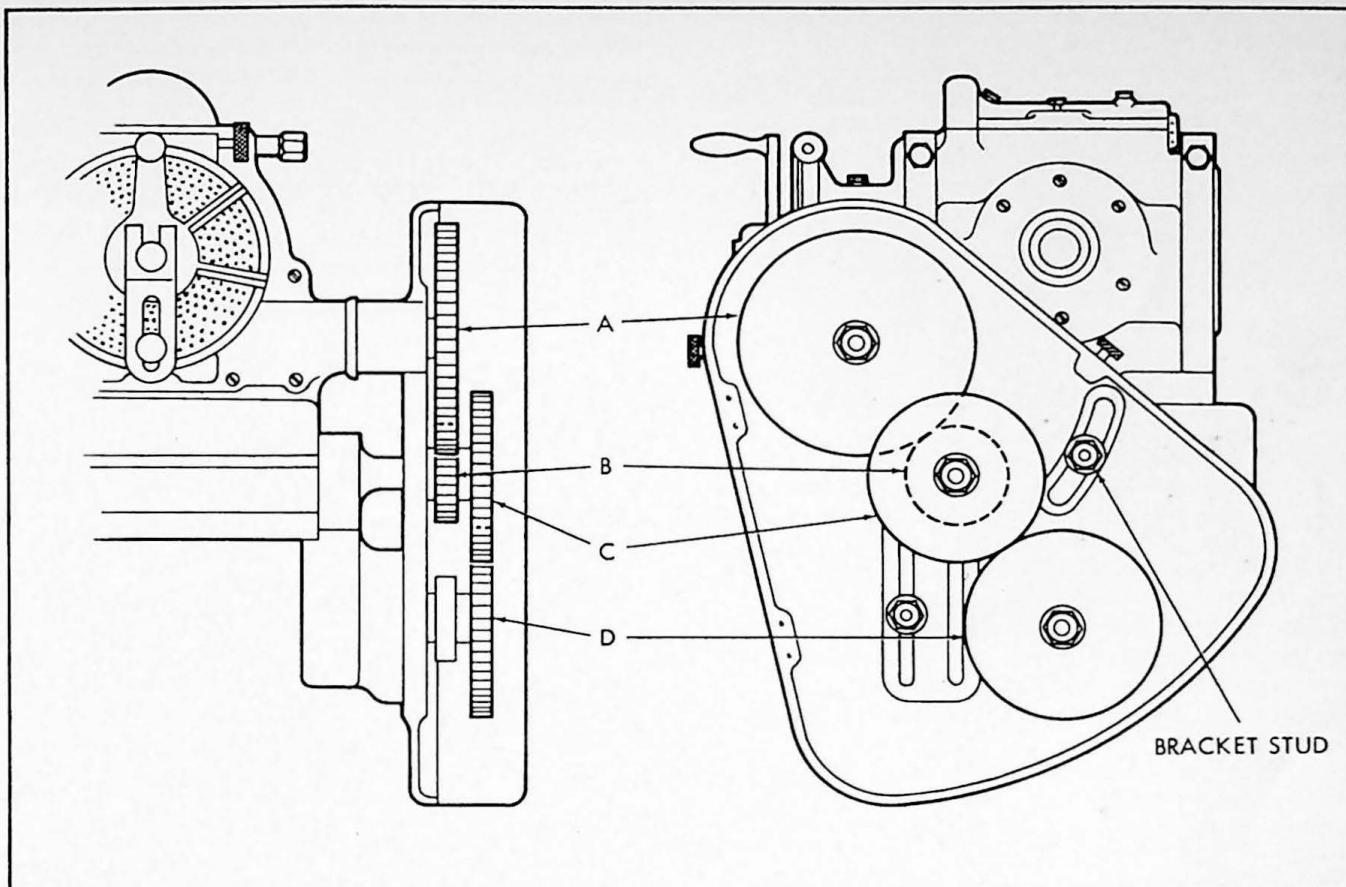

Fig. 6. Gearing in Conventional Lead Attachment
3. Screw the bracket stud (see Figure 6) supplied
Figure 6 illustrates the position of the gears in the lead attachment and identifies each by a letter. B and D are driver gears and A and C are driven gears. The particular gears to use in each of the positions for a desired lead are listed in Table 2 at the rear of this book. If the gears do not mesh when placed in the positions shown, the two driver gears (B and D) or the two driven gears (A and C) may be interchanged to give a total of four combinations for the desired lead.